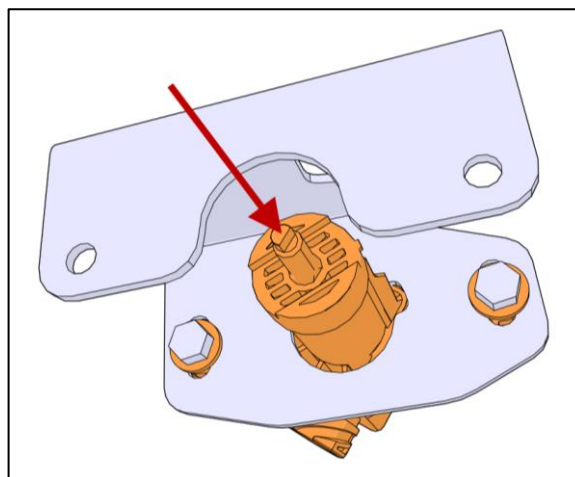

FIGURE 7
*Make sure the flat on the sensor rotor is orientated as shown in Figure 7.*